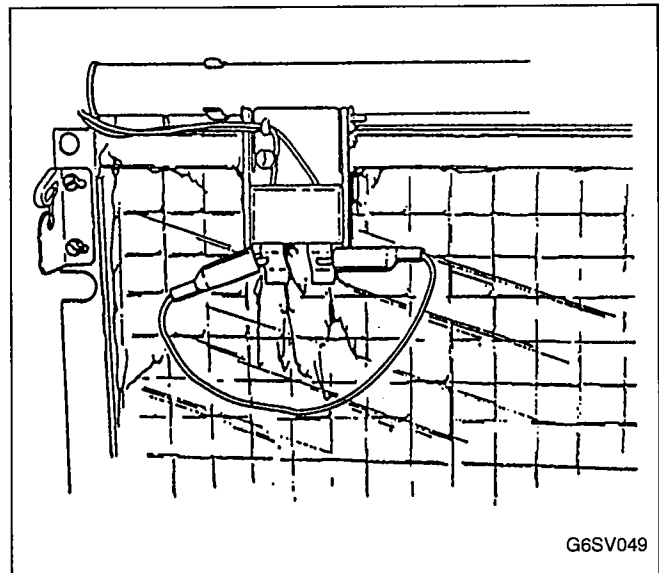

FIGURE 59. JUMPER WIRE CONNECTED TO PROBES
Step 2: Clip the leads of the jumper wire to the ice thickness control probe, Figure 59.